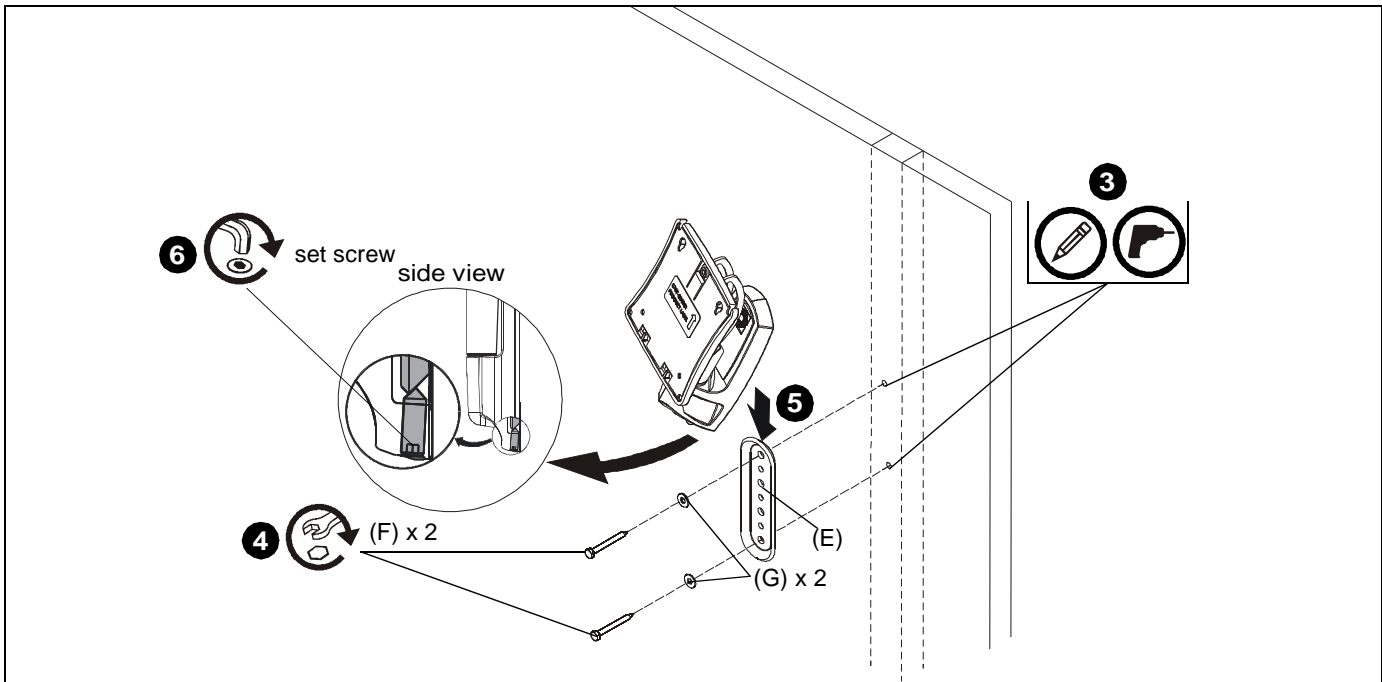

Figure 1
3. Use wall bracket (E) to mark and drill two 1/8 x 2 1/2" holes in wall at desired mounting location. (See Figure 1)
4. Use two 1/4-2 1/2" hex head lag screws (F) and two 1/4" washers (G) to install wall bracket (E) onto wall. (See Figure 1)
**IMPORTANT !** : Over tightening screws (F) may cause bracket to compress into soft wall surface resulting in difficult mount installation or improper engaging of set screw in Step 6.
5. Hang monitor arm (A) over wall bracket (E). (See Figure 1)
6. Secure monitor arm to wall bracket (E) by tightening set screw. Ensure set screw engages back side of wall bracket (E) to properly secure mount. (See Figure 1)